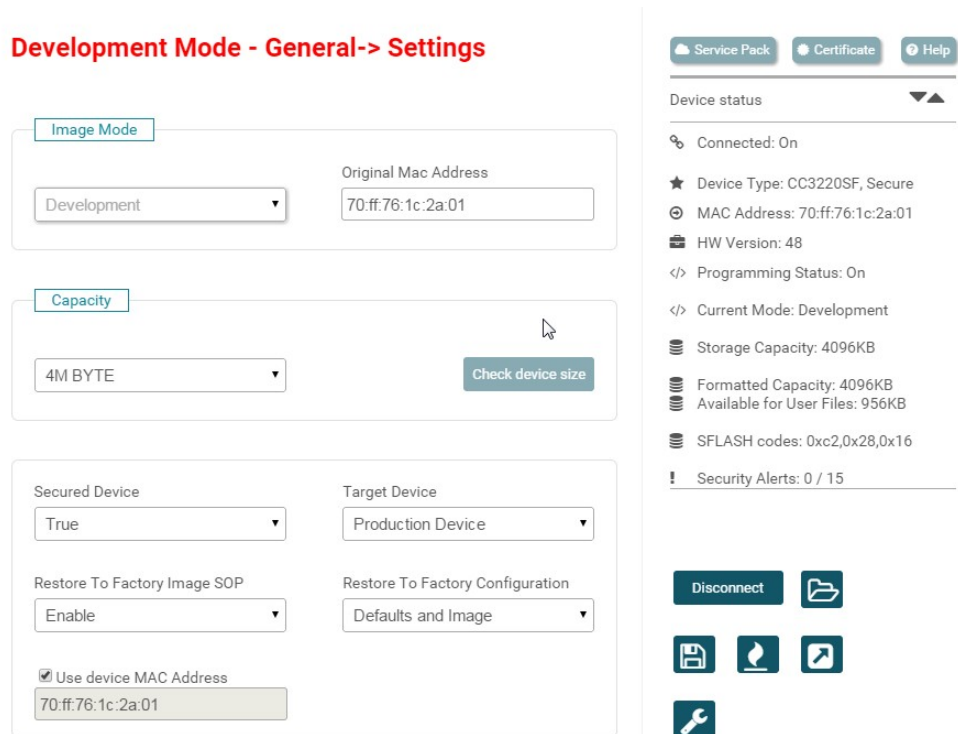

Figure 39. UniFlash General Settings
5. Ensure the CC3220 LaunchPad is connected and click the Connect button. Users can see the device information of the connected device with their device MAC address (see Figure 39). This is important because the development mode is matched to the device MAC address.